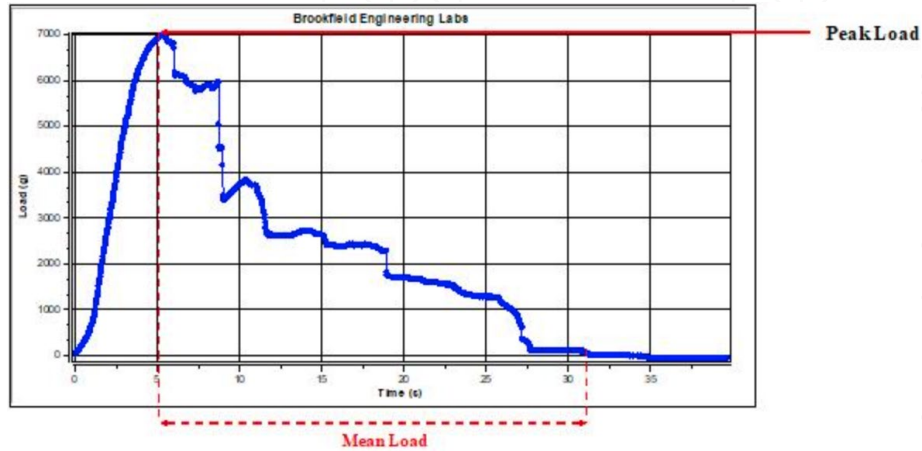

Figure 1
- Figure 1: Load vs. Time graph illustrates the force needed to initiate and continue tearing at the seal.